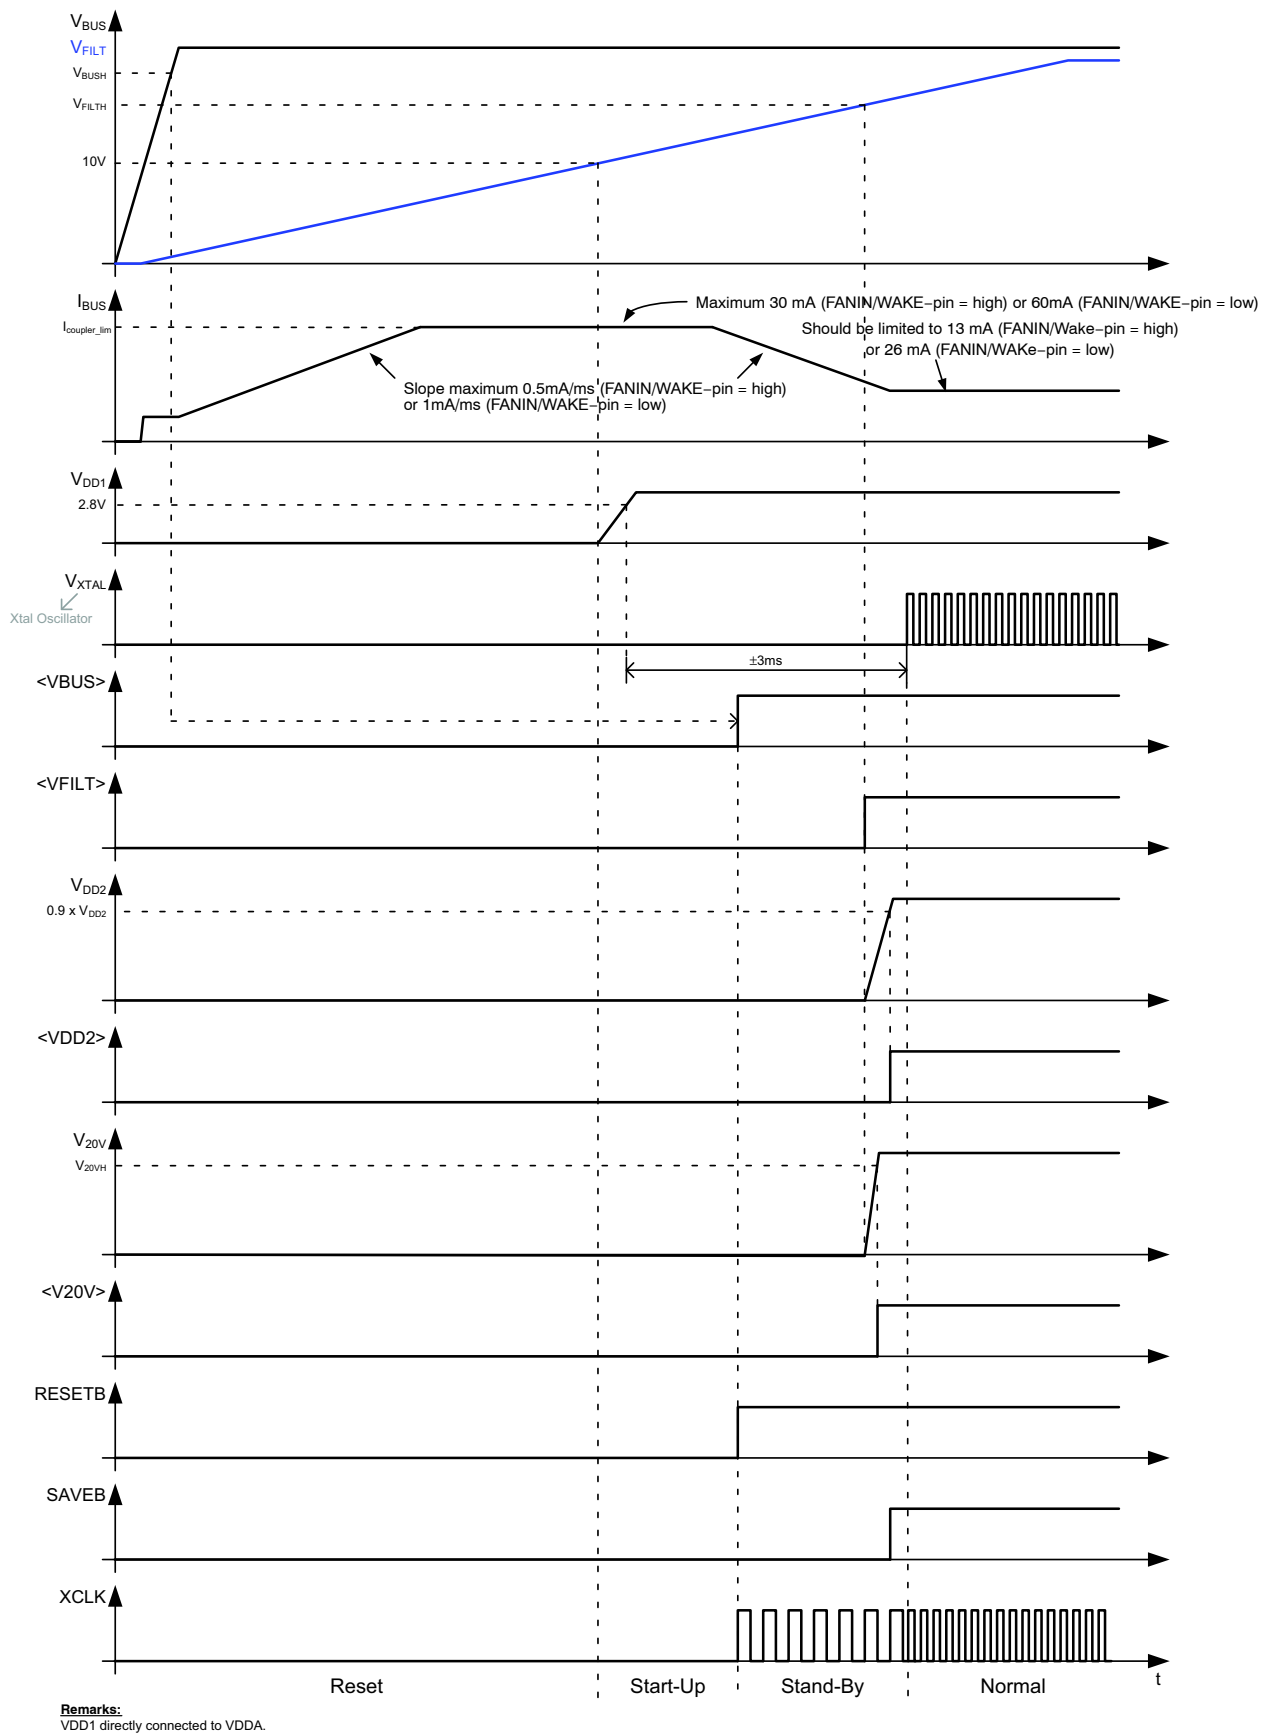

Figure 21. Start-Up Behavior
After power–up, a 4 MHz (Note 3) clock signal will be present on the XCLK–pin during Stand–By. When Normal State is entered, a 8 or 16 MHz clock signal will be present on the XCLK–pin. See also Figure 21.
Figure 21 gives a detailed view on the start–up behavior of NCN5120. After applying the bus voltage, the filter capacitor starts to charge. During this Reset State, the current drawn from the bus is limited to  $I_{coupler}$  (for details see the KNX Standards). Once the voltage on the filter capacitor reaches 10 V (typ.), the fixed DC–DC converter (powering VDDA) will be enabled and the device enters the Start–Up State. When  $V_{DD1}$  gets above 2.8 V (typ.), the OTP memory is read out to trim some analog parameters (OTP memory is not accessible by the user). When done, the Stand–By State is entered and the RESETB–pin is made high. If at this moment  $V_{BUS}$  is above  $V_{BUSH}$ , the VBUS–bit will be set (<VBUS>, see System Status Service, p34). After aprox. 2 ms the Xtal oscillator will start. When  $V_{FILT}$  is above  $V_{FILTH}$  DC2 and V20V will be started. When the Xtal oscillator has started, no Thermal Warning (TW) or Thermal Shutdown (TSD) was detected and the VBUS–, VFILT–, VDD2– and V20V–bits are set, the Normal State will be entered and SAVEB–pin will go high.